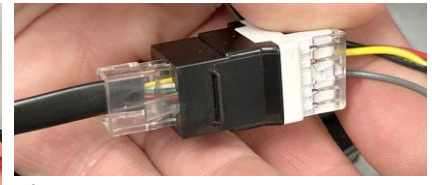

Figure 33
31. Connect the 8076535-coupler RJ (ethernet) connector to the RJ (ethernet) cable from the IO board (see Figure 33).